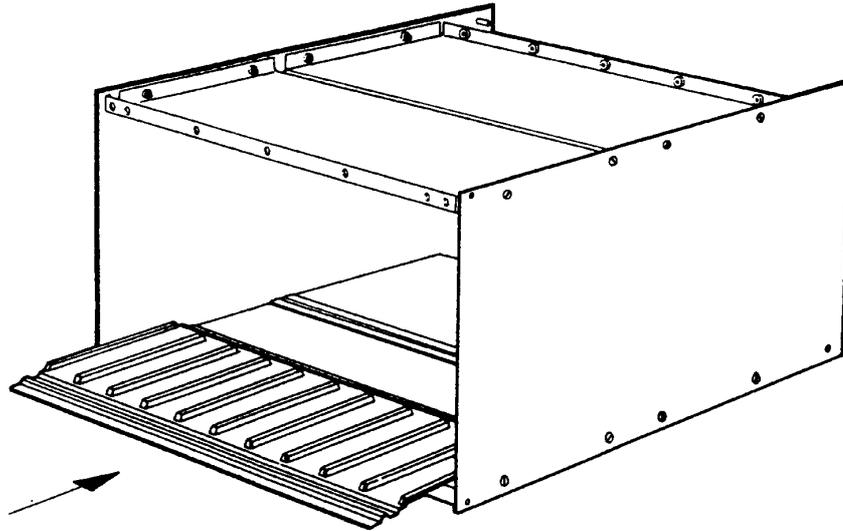

Figure 3.3 Sliding the plastic runners into the IMP mounting frame.
Figure 3.3 Sliding the plastic runners into the IMP mounting frame.....	3-7
- 2** Slide the plastic runners (four off) into the support trays. (See Figure 3.3.)